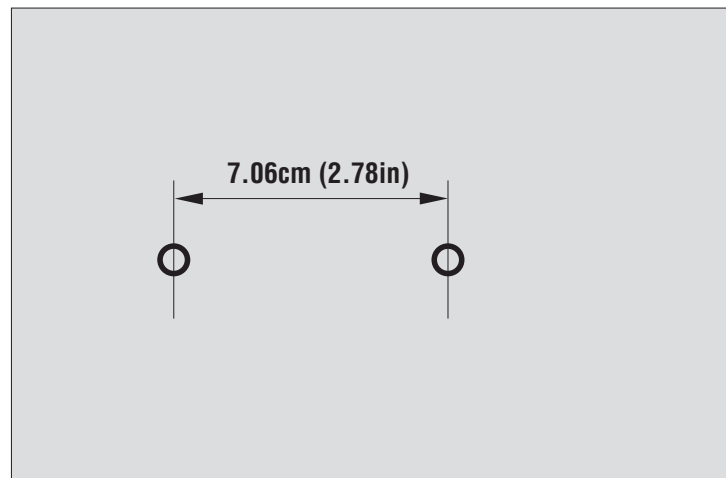

Figure 4. Wall Mounting Hole Dimensions
4. Mark locations for two holes 7.06 cm (2.78 in) apart on the wall as shown in Figure 4..